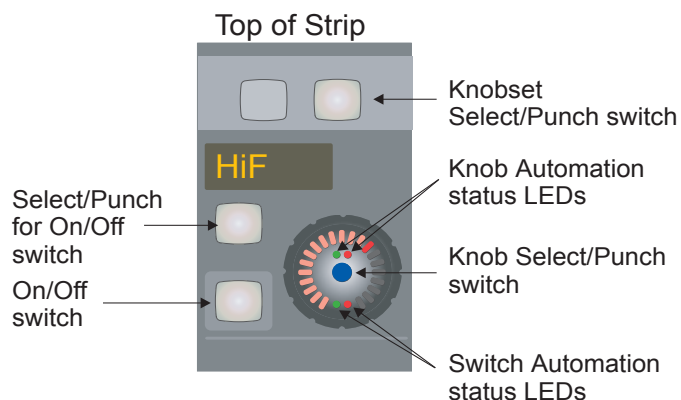

Figure 8-6 Rotary Knob Controls
- At the top of the strip (see Figure 8-6), the **Knobset Select** key selects all knob-set parameters for the currently selected function, including knobs and switches.